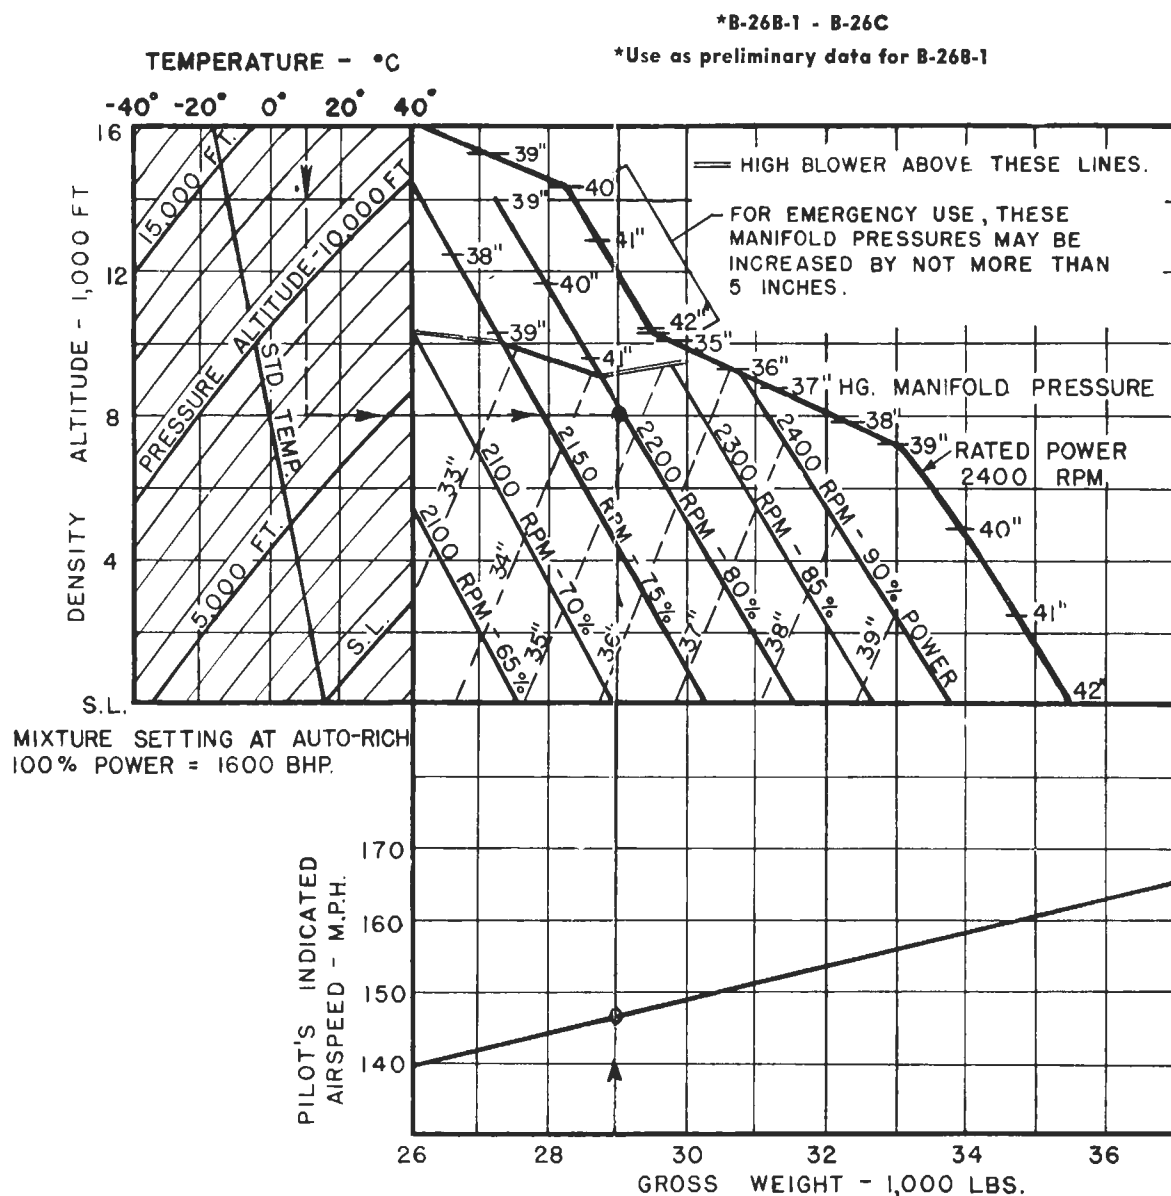

Figure 92 — Single-Engine Control Charts
6. SINGLE ENGINE CONTROL. (See figure 92.)
(1) From figure 92.
(2) From figure 92.